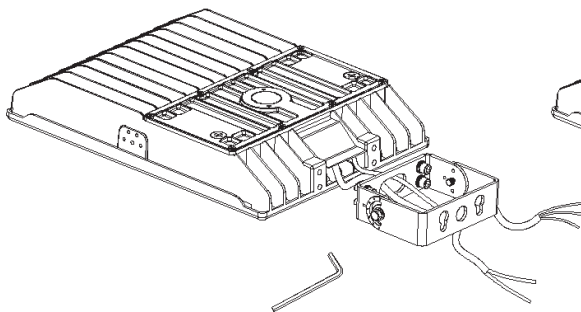

figure 6
1. Run leads from luminaire through slot in trunnion. (see fig 6)